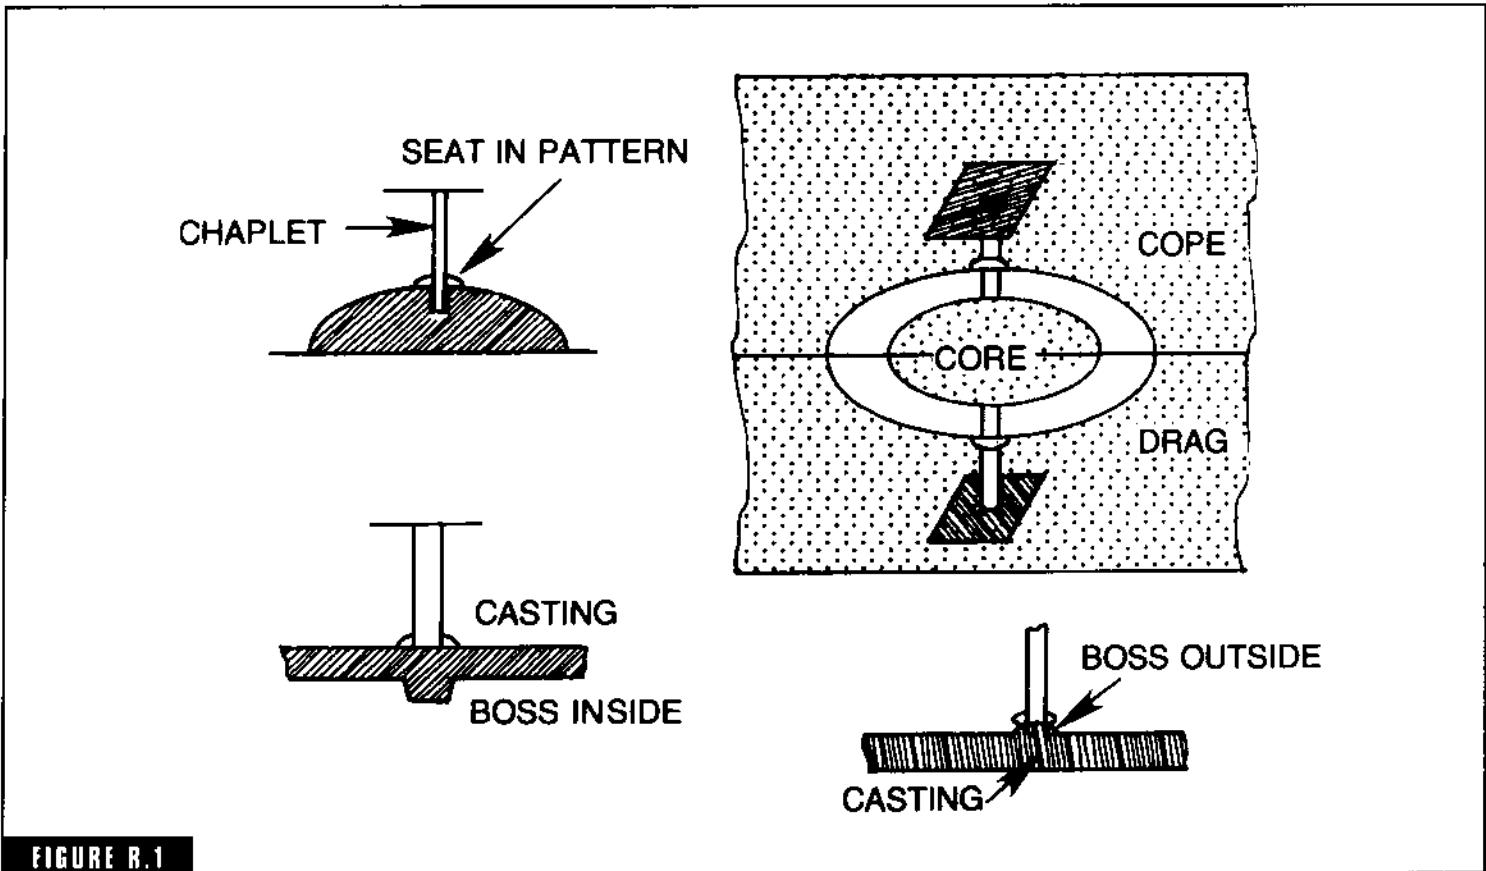

FIGURE R.1
**radiator chaplets** Differ from most other chaplets in that they are set before the mold is rammed (Fig. R-1). The practice is to drill a hole in the pattern corresponding to the diameter of the wire used in the chaplet. The chaplet is dropped into the hole, sand rammed into the mold, and the pattern withdrawn. The stem of the radiator chaplet is left protruding in the mold cavity a distance equal to the thickness of metal and ready to support or hold down the core in its proper position.